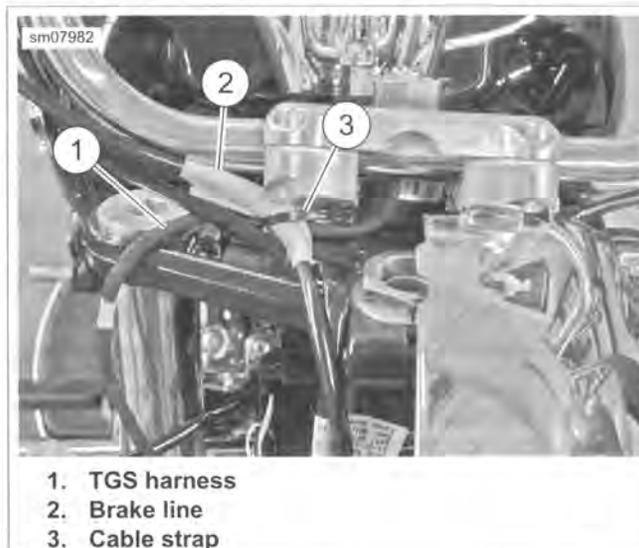

Figure 2-51. Capture Brake Line and TGS harness (FLHR/C)
- b. See Figure 2-51. Cut cable strap from right handlebar riser.
- a. See Figure 2-51. Secure TGS harness and brake hose to right handlebar clamp with **new** cable strap.